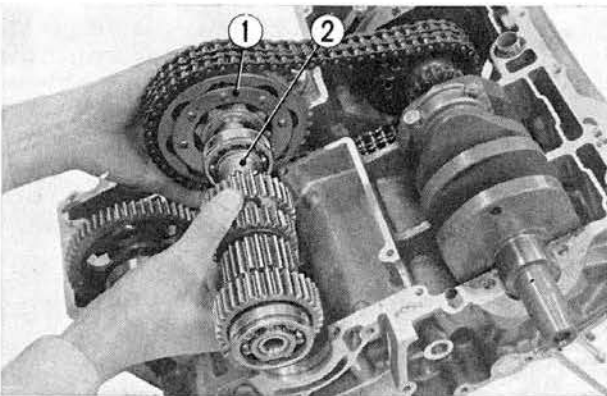

Fig. 3-75 ① Primary sprocket
14. Raise the transmission mainshaft and remove the primary sprocket and then remove the primary chain from the primary sprocket. (Fig. 3-75)